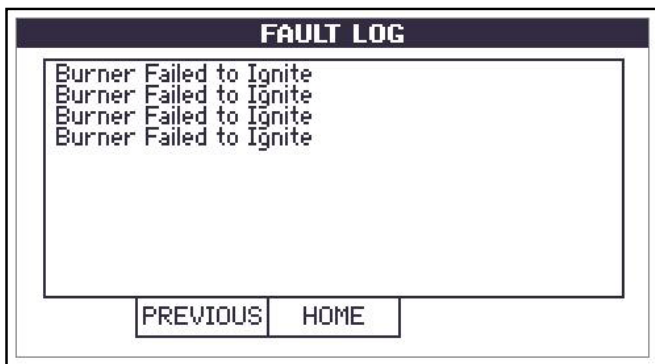

Figure 145
- Check the Reporter for any faults (see Figure 145)